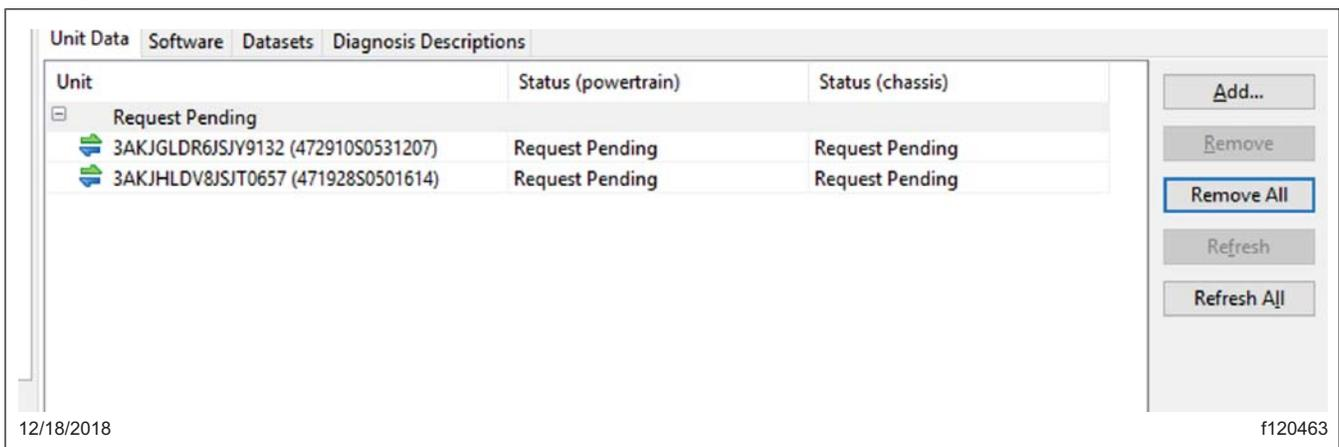

Fig. 2, Removing Pending Requests
- Select "Program Device." If there are any items in the section "Request Pending" downloads, they should be removed. To remove them, select the "Request Pending" list item, then press the "Remove" button. See Fig. 2.